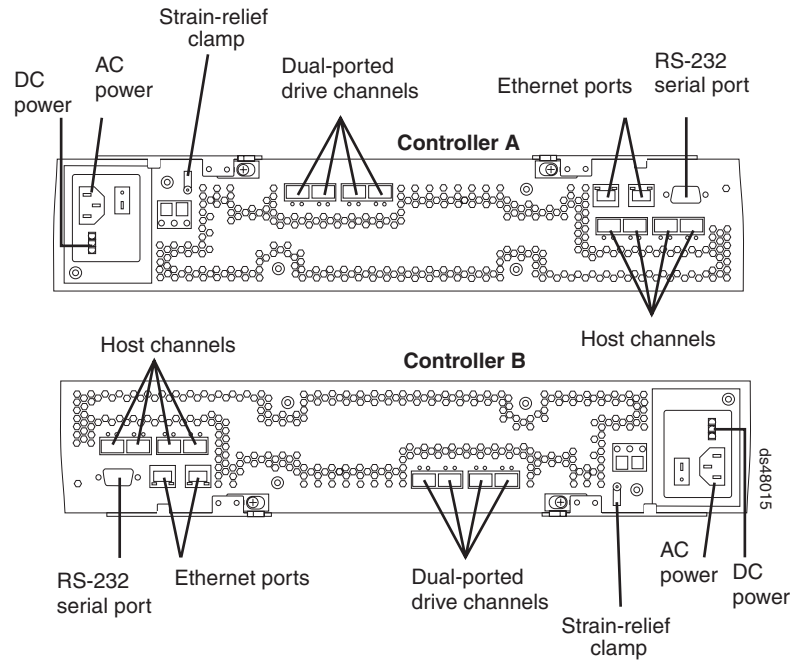

Figure 84. Connectors on the back of each controller
7. Disconnect all attached interface cables from the failed controller, including the SFP modules. Ensure that you label each cable so that you can reconnect them correctly to the new controller. Figure 84 on page 139 shows the location of the connectors on the back of a controller.